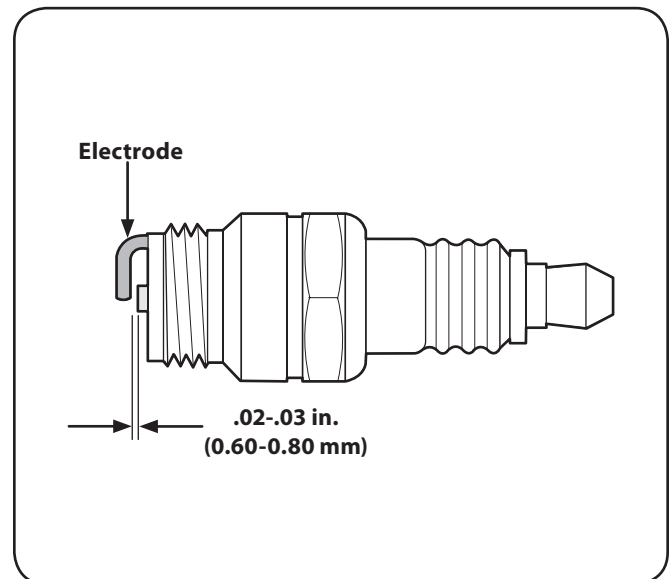

Figure 7-5
3. Measure the plug gap with a feeler gauge. Correct as necessary by bending the side electrode, Fig. 7-5. The gap should be set to .02-.03 inches (0.60-0.80 mm).